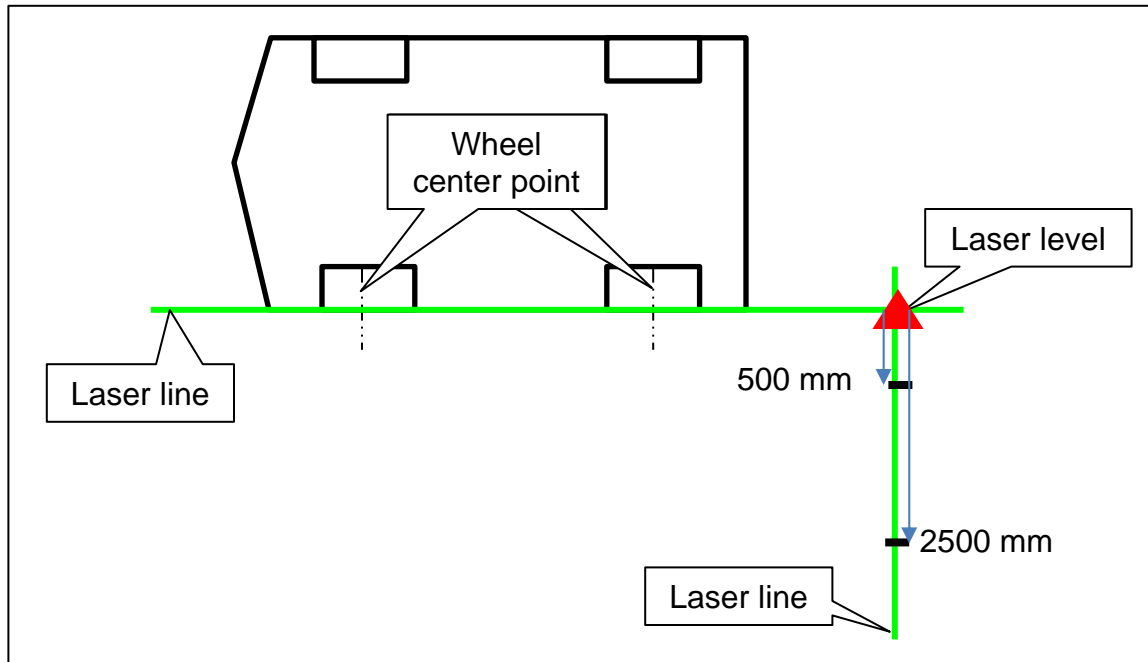
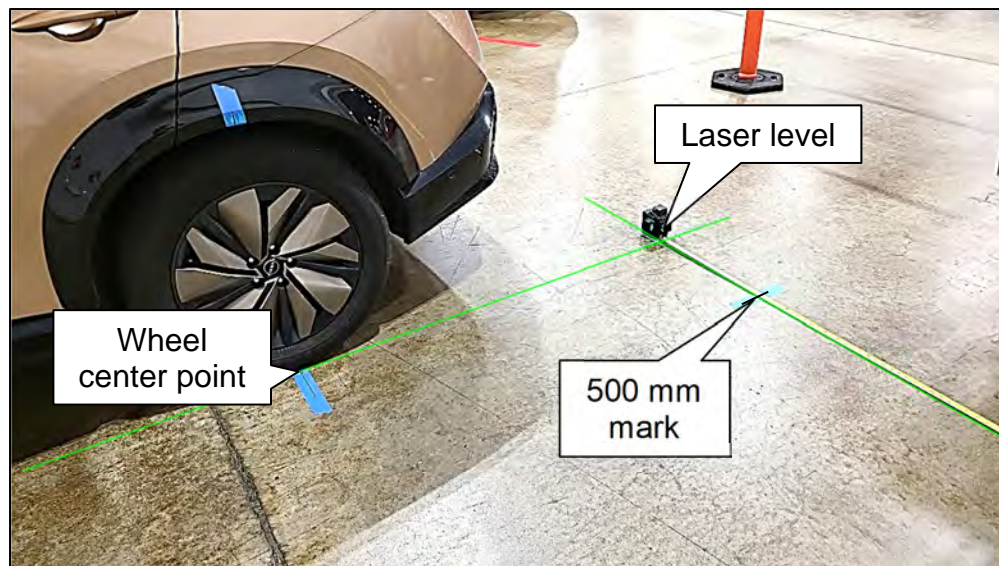

Figure 27
Figure 28
21. Activate a second vertical laser line (90° to the original laser line), and then mark a line at 500 mm and 2500 mm from the original laser line, as shown in Figure 27 and Figure 28.